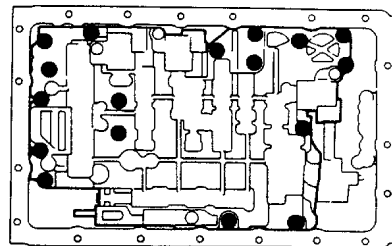

Fig. 11 Valve Body Bolt Locations
(16) Remove valve body bolts (Fig. 11).